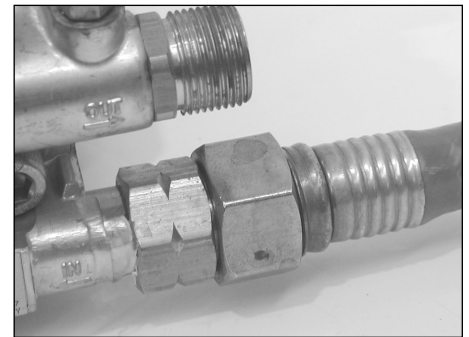

Figure 6 - Secure garden hose
7. Secure garden hose (not included) to the inlet connection on pump. (See Figure 6.)